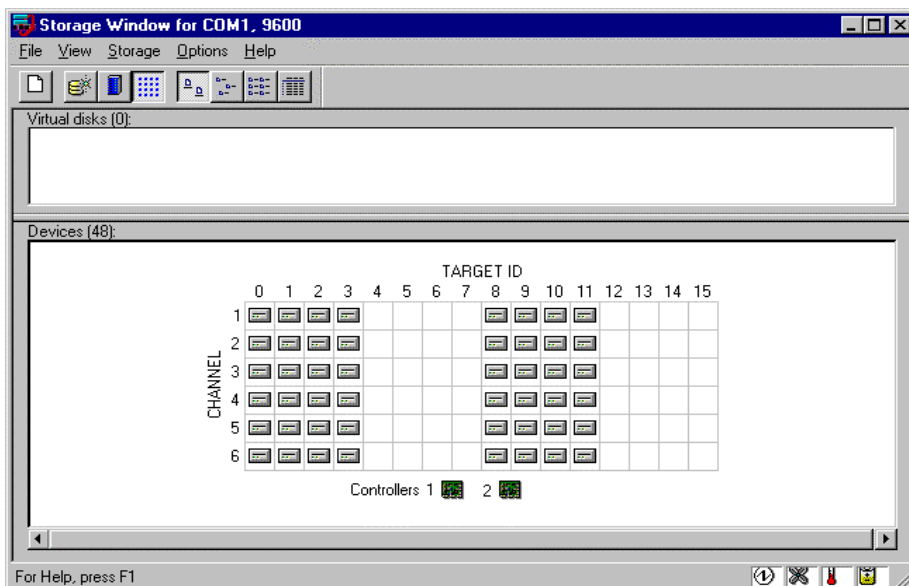

Figure 2-5. Storage window
5. When the Connection Selection dialog box displays, click the *Serial* radio button (Figure 2-4), then click *OK* to display the *Connect Serial* dialog box (Figure 2-5).
6. On the *Connect Serial* dialog box, from the drop-down menu, select the PC COM port your HSG80 controller is connected to, then select the baud rate (controller default is 9600). Then click the *Connect* button to display the Storage Window (Figure 2-5). You are now connected to your storage subsystem. The next step is to configure the controller.